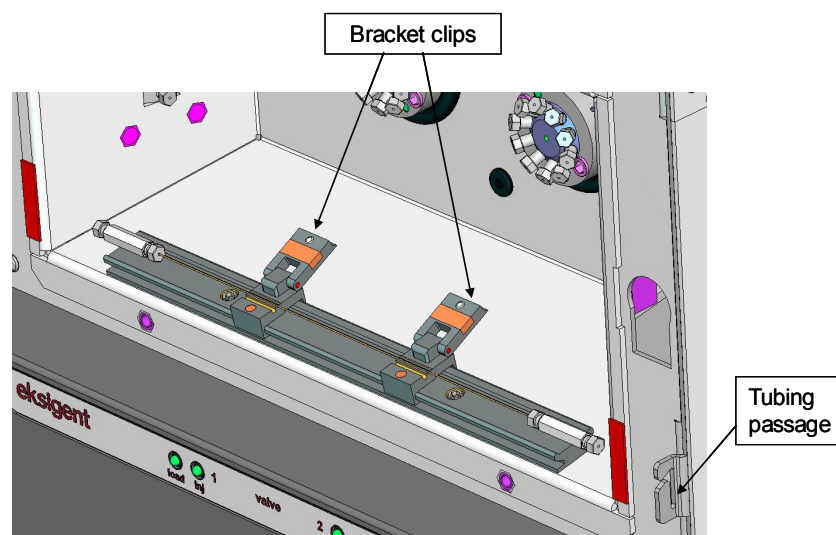

Figure 4-5 Column Mounting Bracket
3. Flip open the bracket clips and insert the column in the groove (Figure 4-5).